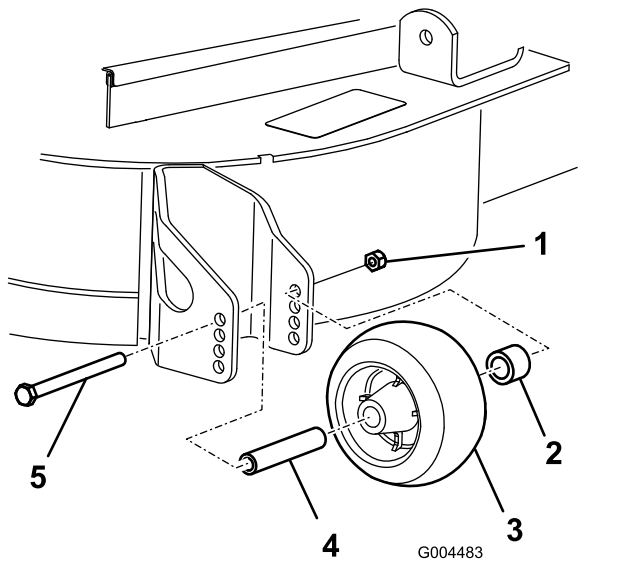

Figure 10
3. After adjusting the height-of-cut, adjust the rollers by removing the flange nut, bushing, spacer, and bolt (Figure 10).
5. Install the flange nut bushing, spacer, and bolt. Torque to 54 to 61 N·m (40 to 45 ft·lb) (Figure 10).